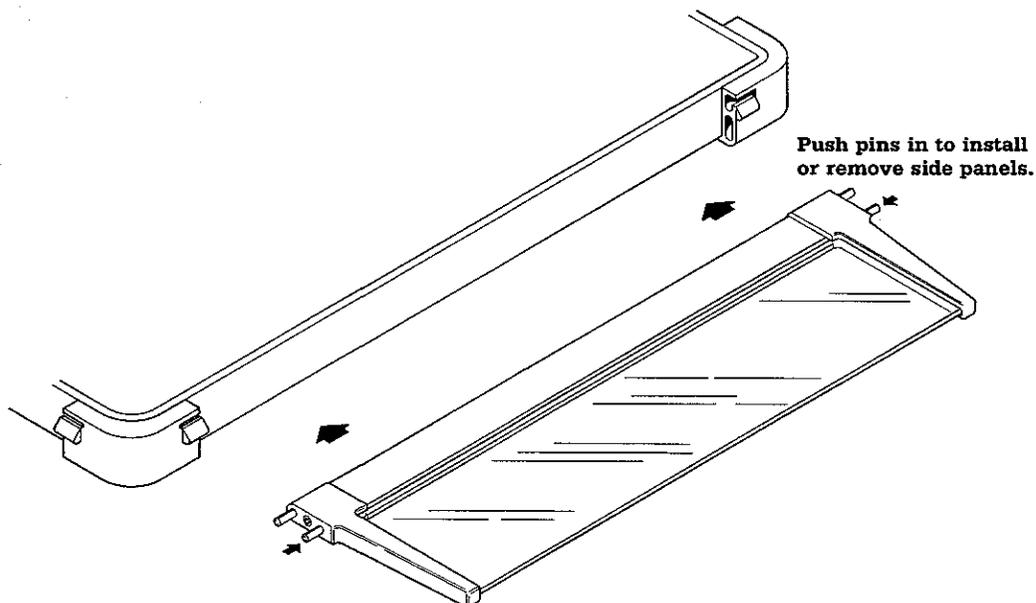

Figure 5-10
A. Side Panel Replacement (Figure 5-10)